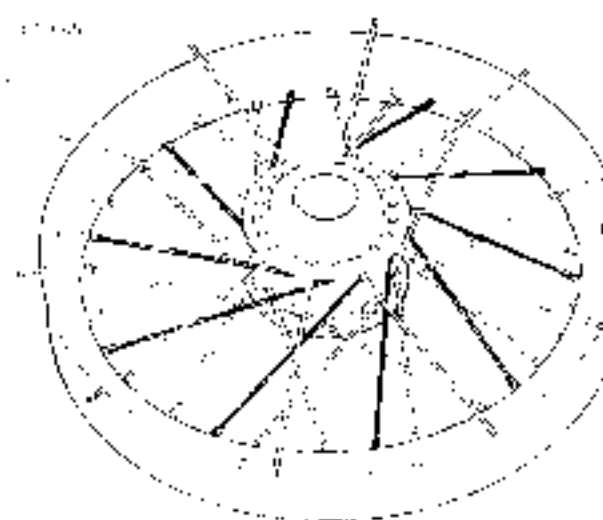

Figure 2-39. Completed Spokes-Top Flange Inner
- b. See Figure 2-39. Once you have completed the top flange of inner spokes (long head) double check for one empty hole after every third spoke.